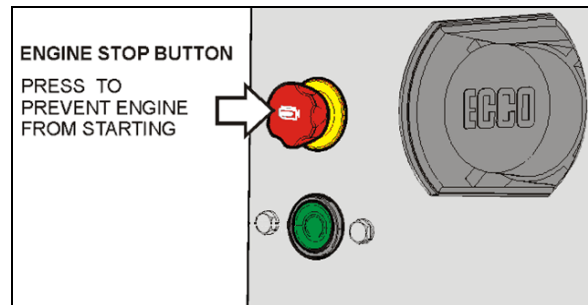

Figure 1
1. Press rear engine stop button to prevent engine from starting (Figure 1).